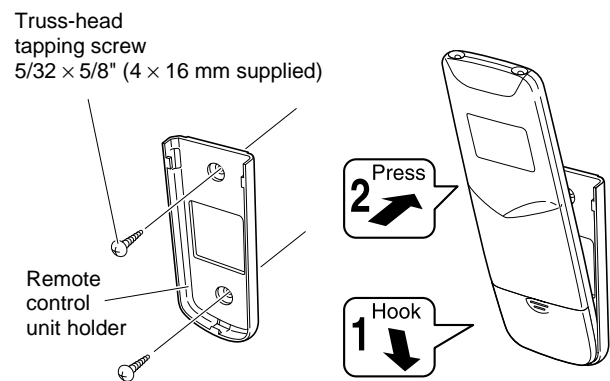

Fig. 30
- 1) Confirm the indoor unit beeps when the ON/OFF button is pressed at the wall location where the remote control unit is to be attached, then attach the holder to the wall. (Fig. 30)